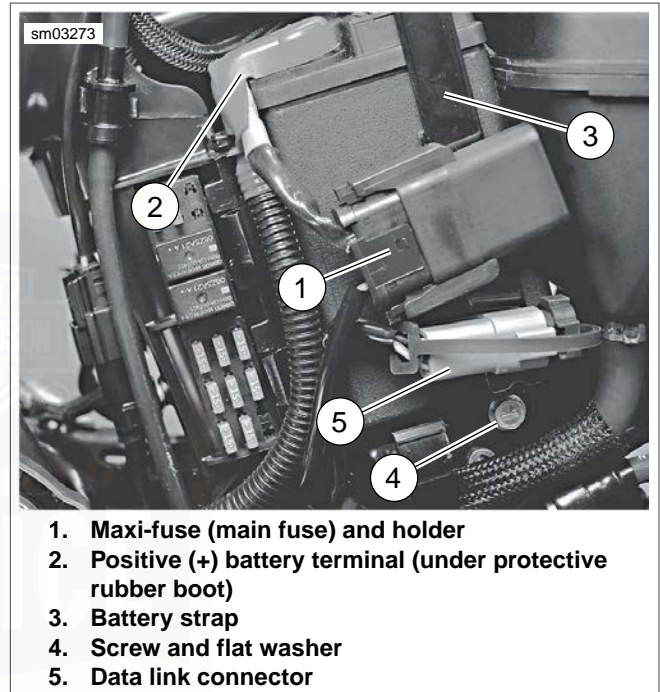
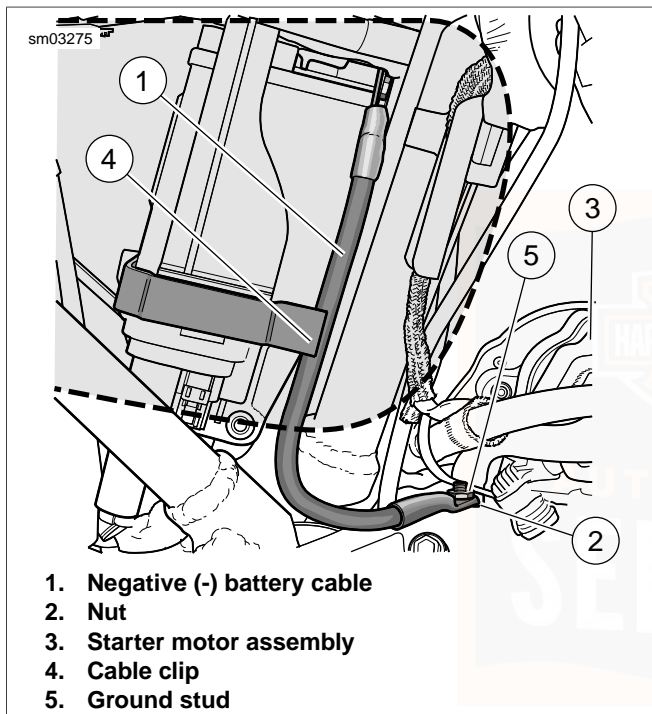
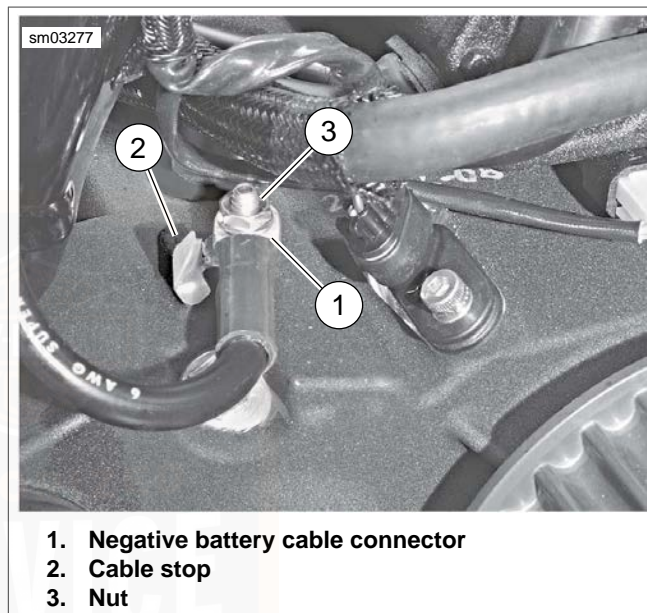
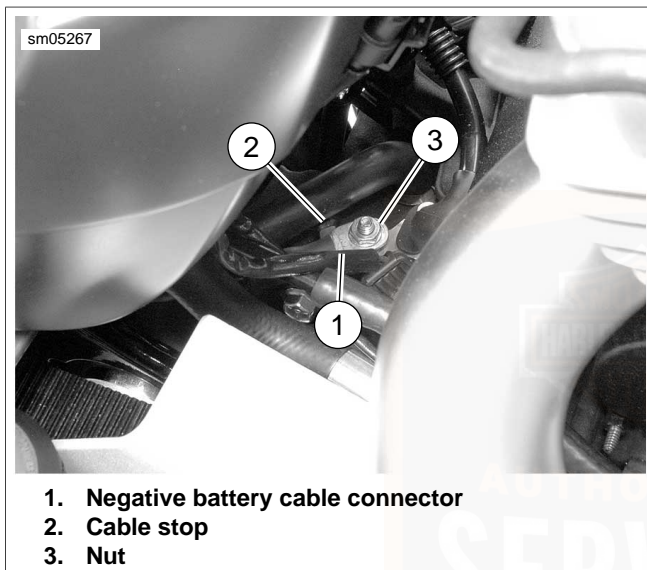

Figure 60. Maxi-Fuse and Battery Location: All Models
Figure 61. Negative (-) Battery Connection
Figure 63. Attaching Negative (-) Battery Cable to Ground Stud Crankcase: XL
Figure 64. Attaching Negative (-) Battery Cable to Ground Stud Crankcase: XR
2. See Figure 60. Press Maxi-Fuse holder (1) toward the rear of the motorcycle until it pops off its mounting pin on battery strap (3). Remove Maxi-Fuse holder from battery strap.
3. Press data link connector (5) toward the rear of the motorcycle until it pops off its mounting pin on battery strap. Remove the connector from battery strap.
4. Remove battery strap screw and flat washer (4). Unhook battery strap from battery tray mount on top of battery and remove strap.
5. See Figure 61. Remove nut (2) that secures the negative (-) battery cable (1) connector to ground stud (5) on crankcase boss behind starter motor assembly (3). Remove cable connector from stud.
6. Pull end of negative (-) cable forward gently to free it from cable clip (4).
7. See Figure 60. Lift up protective rubber boot covering battery positive (+) terminal (2). Unthread screw from battery positive (+) terminal and remove positive (+) battery cables.
9. Remove battery from battery tray. See Figure 61. Note routing of negative (-) battery cable around frame downtube.
5. See Figure 60. With negative (-) battery cable disconnected from grounding point on crankcase, insert screw through positive (+) battery cables: through maxi-fuse cable first, then through main positive (+) battery cable, and into positive (+) battery terminal (2). Thread screw into terminal. Tighten to 70-80 **in-lbs** (7.9-9.0 Nm).
7. Hook top of battery strap (3) to battery tray mount on top of battery. Install flat washer and strap screw (4). Tighten to 36-60 **in-lbs** (4.1-6.8 Nm).
9. Hook Maxi-Fuse holder (1) to top pin on battery strap and slide forward until it snaps into place.
10. Hook data link connector (5) to bottom pin on battery strap and slide forward until it snaps into place.
11. See Figure 61. Press negative (-) battery cable (1) into cable clip (4).
12. Place negative (-) battery cable connector onto ground stud (5) on crankcase boss behind starter motor assembly (3). Thread nut (2) onto stud.
13. See Figure 63 or Figure 64. Press negative (-) battery cable connector (1) against cable stop (2) on crankcase and tighten nut (3) to 55-75 **in-lbs** (6.2-8.5 Nm).